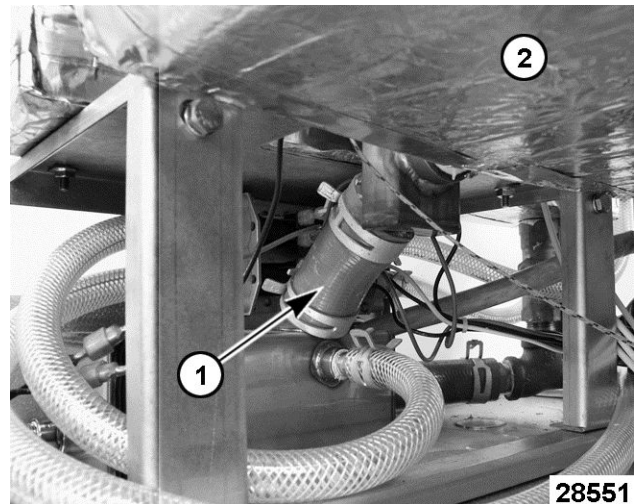

Fig. 30
8. Disconnect compartment drain hose [1] Fig. 30 from rear of cooking compartment [2] Fig. 30.